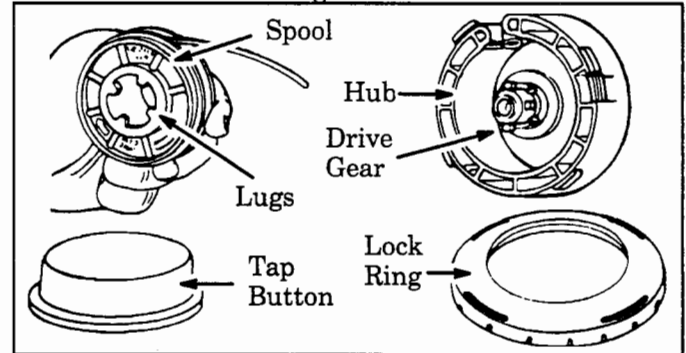

Figure 17
- Remove the lock ring, tap button, and spool. Figure 17.
- Press spool down; turn and lock the spool lugs under the drive gear. Figures 17 & 18.